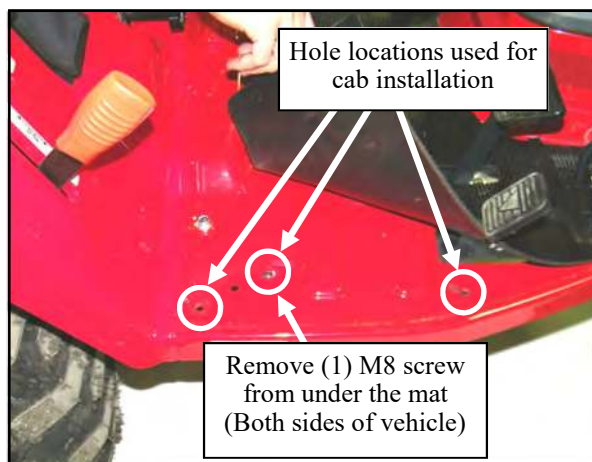

Fig. 1.1b (Floor Pan - Right Side of Vehicle)
- (1) Floor pan mounting screw (M8) from each side of the vehicle. See Fig. 1.1b. Discard screws.
1.2 Using a nail or other sharp object, mark the hole locations in the rubber floor mat, using the vehicle floor pan holes as a guide. See Fig. 1.1b
1.3 Using a 3/8" drill bit, open up the holes in the rubber floor mat to accept M8 screws in step 2.3 on page 6. Use figures 1.1b and 2.3 as visual guides.